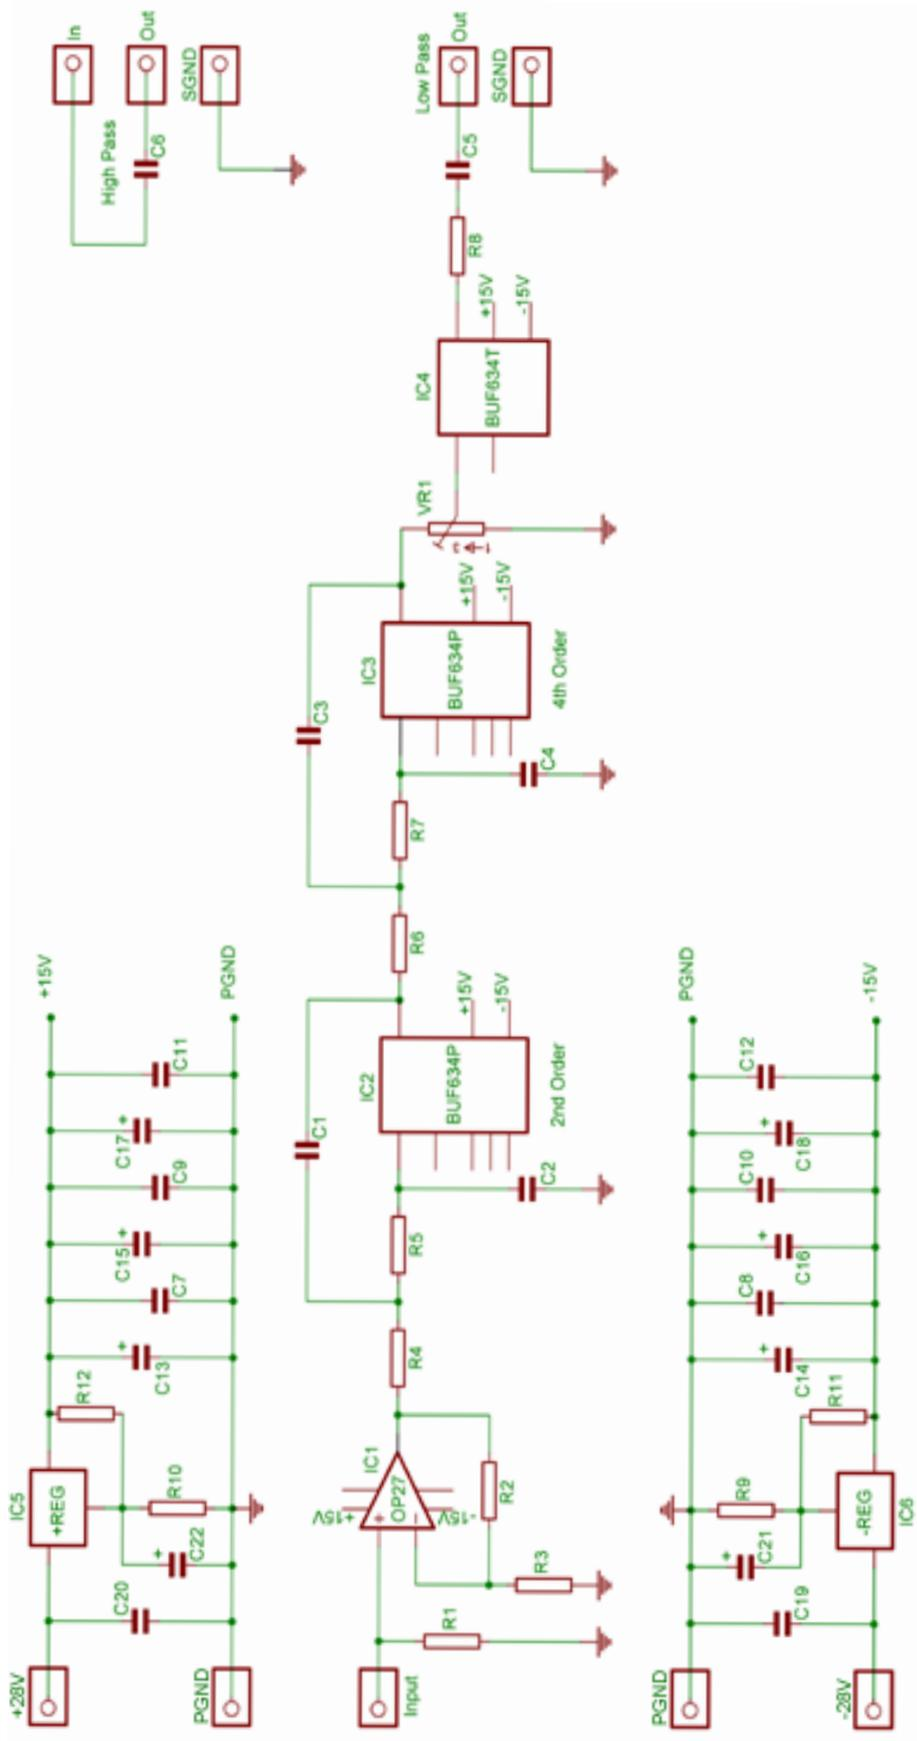

Figure 1.
Let's choose a value for $C_o = 0.1\text{uf}$ (0.1×10^{-6}). Then according to equation (2), $R_o = 15,900$ ohms. So in our circuit (refer to figure 1) $C_o = C_2 = 0.1\text{uf}$ and $R_o = R_5 = 15.9\text{kohm}$. A jumper wire would be installed in place of R4. C1 would be left open. The output of IC2 would be connected directly to pot VR1 bypassing IC3 and its associated circuitry.